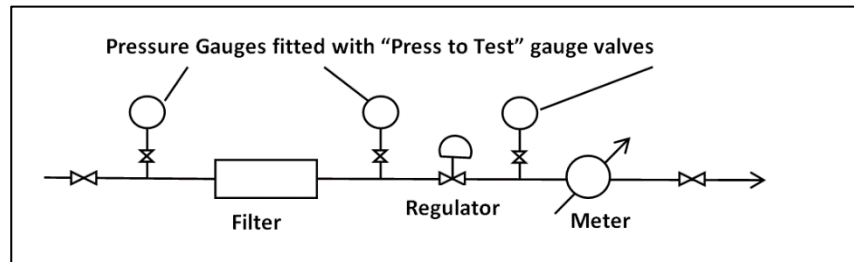

Figure 2: Typical gas meter configuration
- A typical metering configuration is shown in Figure 2.